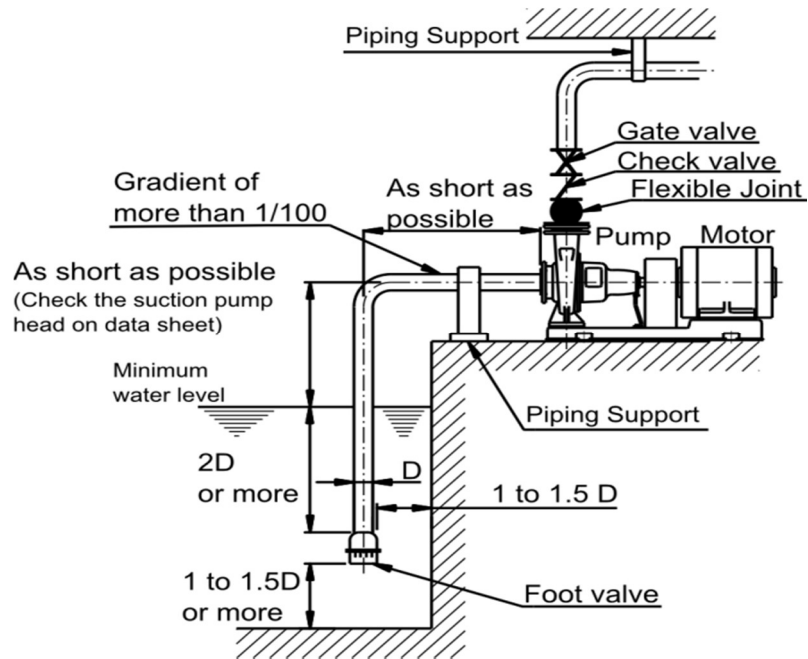

Fig 2 Installation view
The pump should be installed to piping by **Fig 2**.
- A foot valve or similar should be fitted to the pump when operating on a suction lift as outlined in fig 2.